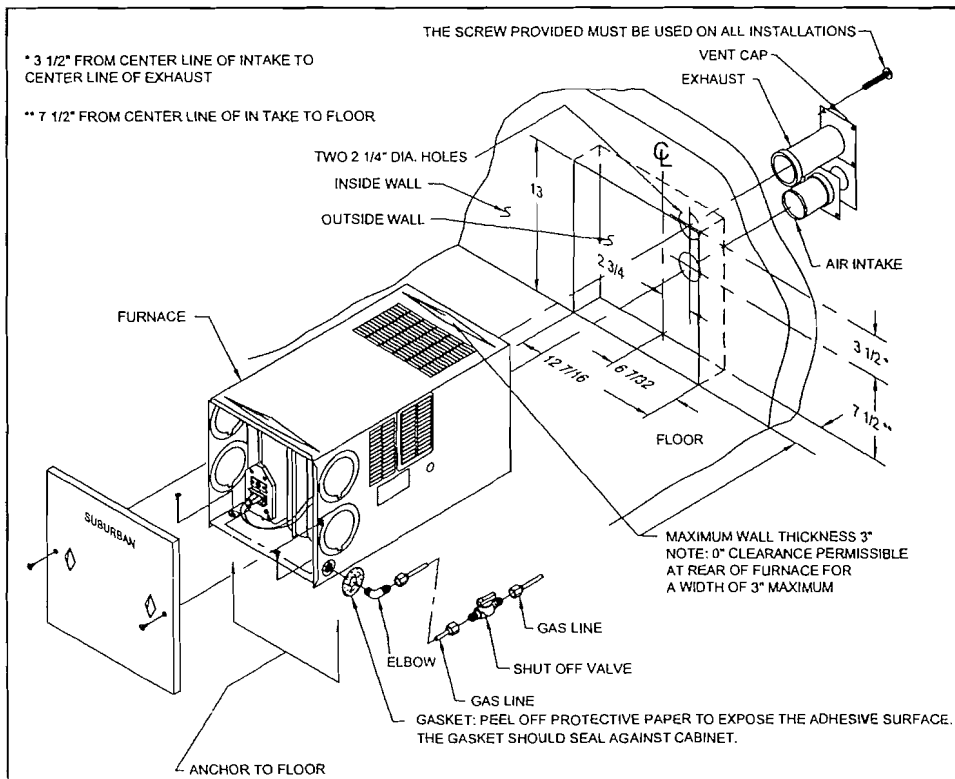
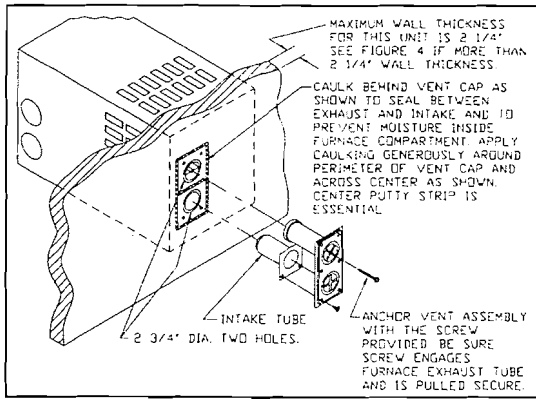

Figure 1
Figure 2
4. Cut an opening through the inner wall 12-7/16 x 13". This will allow the rear of the furnace to be installed against the outer skin of the coach. (See Figure 1.)
5. Cut two 2-1/4" diameter holes through the outer skin of coach as shown in Figure 1.
7. Fasten furnace to floor of coach using the two holes provided in the front plenum area of furnace cabinet. (See Figure 1.)
(See Figure 2)
4. Locate center lines for exhaust and intake tubes as shown in Figure 1. Cut two 2-3/4" diameter holes through coach wall for exhaust and intake. (See Figure 2.)
6. Fasten furnace to floor of coach using the two holes provided in front plenum area of furnace cabinet. (See Figure 1.)
1. Apply caulking to RV skin behind vent cap as shown in Figure 2. Apply caulking generously around perimeter of vent cap and across center as shown.
2. Insert intake tube through RV skin and slide it onto the furnace intake. (See Figure 2.) Minimum tube overlap of 1/2" is required.
3. Insert vent cap exhaust tube through RV skin and slide it onto the furnace exhaust. (See Figure 2.) Minimum tube overlap of 1 1/4" is required.
4. Attach vent cap assembly to outer skin of RV with the six (6) screws provided. Do not install vent assembly upside down. The words "Suburban" and "Dayton, Tenn." must be right side up.
5. Attach the vent assembly to the furnace using the special 3 1/2" screw provided. Insert screw through hole provided in exhaust opening of vent assembly and secure to bracket in exhaust tube of furnace. This anchors the furnace to the vent assembly and the outer skin of the RV. (See Figure 2.)
Connect the gas supply to the furnace at the manifold. A suggested method is illustrated in Figure 1. Other methods are acceptable if they allow for the gas to be shut off at the furnace for furnace removal while allowing other appliances to remain operational. It will be necessary to hold the flare fitting on the furnace manifold when connecting or loosening gas line.
1. Be sure that the manual shut-off valve is outside of the furnace jacket and easily accessible. (See Figure 1.)
2. To assure an airtight seal, be sure the gasket provided with the furnace is installed as illustrated in Figure 1. If this gasket is omitted, it could result in overheating of component parts within the furnace.